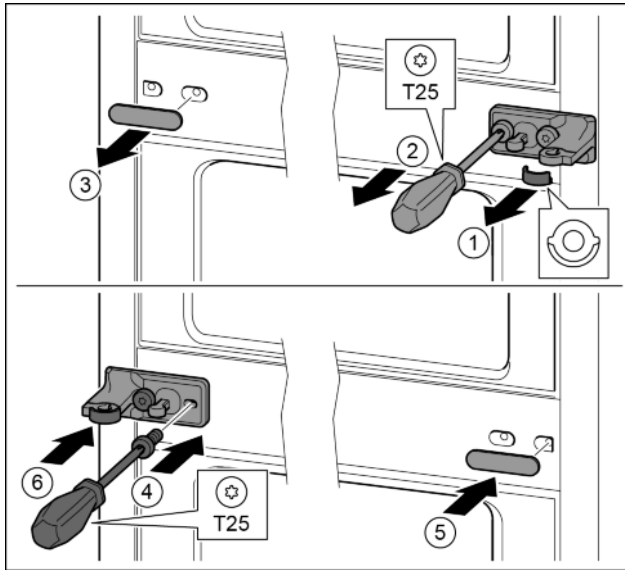

Fig. 13
- Remove the washer. Fig. 13 (1)
- Remove the screws with the T25 screwdriver. Fig. 13 (2)
- Remove the cover carefully. Fig. 13 (3)
- Screw the bearing bracket and the film rotated 180° firmly onto the other side. Fig. 13 (4)
- Attach the cover rotated 180° onto the other side. Fig. 13 (5)
- Push the washer in from the front. Fig. 13 (6)